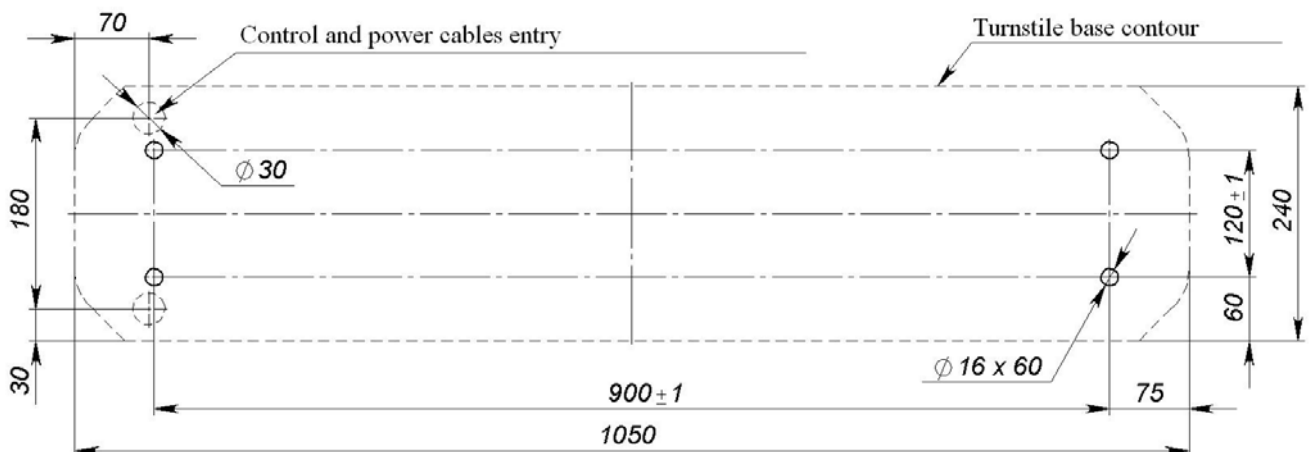

Figure 6 – TBC-01 turnstile housing installation
- to mark the mounting holes according to Figure 6;
9.4.2 Make holes for anchor bolt sleeves for the turnstile housing installation (Ref. Fig. 6).